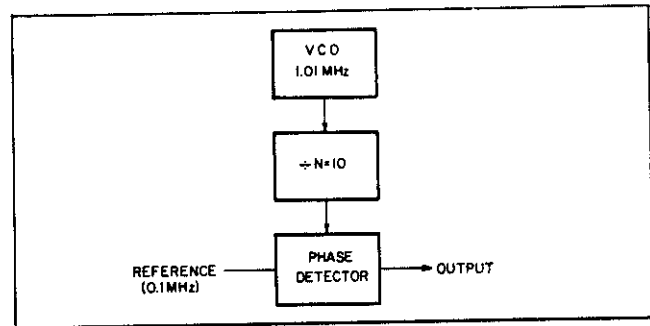

Figure 8-25. Basic Diagram, Open Loop N Step Loop.
0.1 MHz = 1.01 MHz). This configuration is shown in the block diagram of Figure 8-25. The phase detector compares the low-to-high transitions of the reference and divide-by-N signals. Since the VCO is not operating at N times the reference but operates with a fractional component ($F=0.01$ MHz), the signal from the divide-by-N block advances on the reference signal. Each time the divide-by-N signal makes a low-to-high transition, the phase detector compares it to that of the reference. The phase detector generates an output proportional to the period between the two low-to-high transitions. In the phase-locked condition of a N Step Loop this period remains constant. In this open loop example with the VCO containing a fractional component, the period between low-to-high transitions is continuously increasing, therefore, the phase detector output voltage consequently is increasing.
8-165. When analyzing the open loop N Step Loop, it is of interest to view the operation in terms of reference periods. A reference period is defined as the time required for the reference signal to complete one cycle. Each reference period the reference signal goes through one cycle while the VCO which is operating 10.1 times as fast, goes through 10.1 cycles. We can say the VCO has advanced one-tenth of a cycle of phase on the integer part $N \times \text{fref}$ ($\text{fref} = \text{reference freq}$) in one reference period. In two reference periods, the VCO has gone 20.2 cycles or advanced two-tenths of a cycle of phase on $N \times \text{fref}$. When the VCO operates with a fractional offset (F), it continually advances phase on $N \times \text{fref}$ each reference period. From the example of Figure 8-25, in ten reference periods, the VCO signal will have gone 101 cycles or advanced one cycle of phase (360°) with respect to $N \times \text{fref}$. Table 8-5 illustrates the phase relationship of $N \times \text{fref}$ and $N.F$. Just as the VCO signal advances phase on $N \times \text{fref}$, the divide-by- N VCO signal applied to the phase detector advances phase on the reference frequency, fref .
8-166. In a N Step Loop, the VCO is phase-locked to a reference signal. With the introduction of the $\div N$ block, the VCO operates at a multiple N of the reference frequency ($N \times \text{fref}$). In a $N.F$ Loop, the VCO operates at an integer-plus-fractional multiple of the reference frequency ($N \times \text{fref} + F = N.F$). As previously illustrated in Figure 8-25, assume again the VCO operates at 1.01 MHz, the